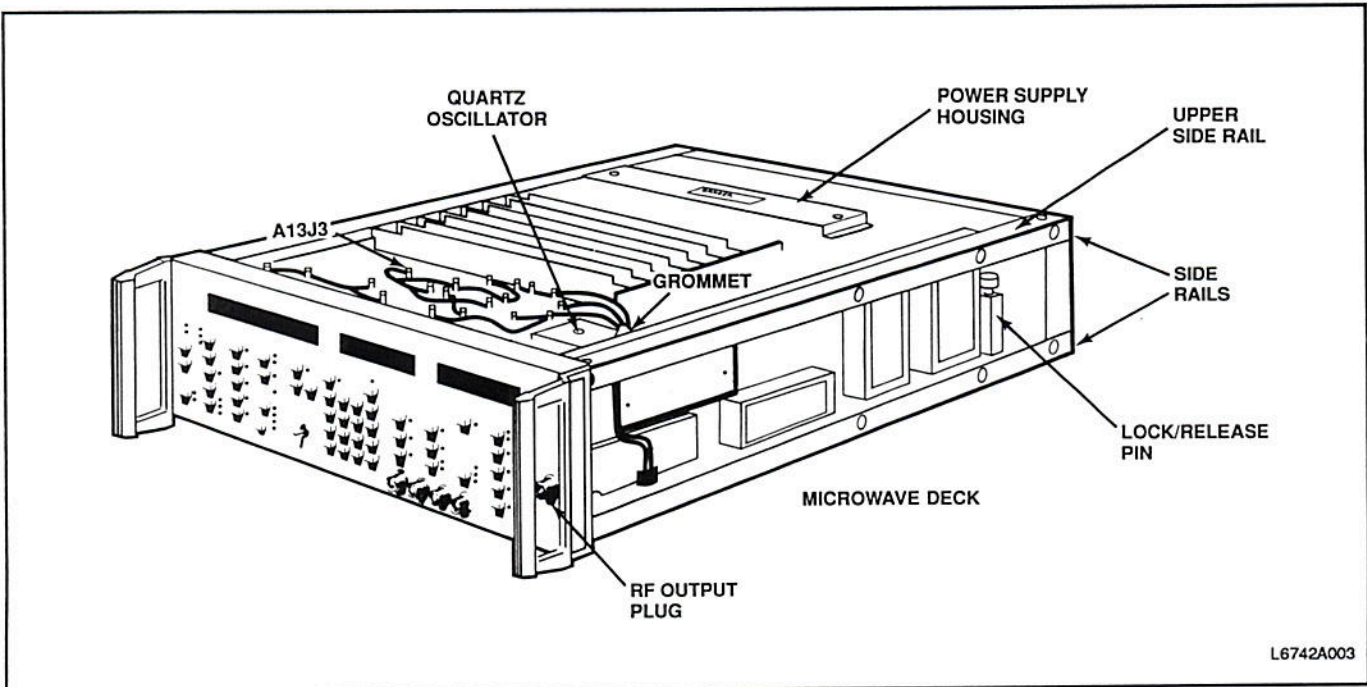

Figure 7-3. Top and Side Views
2. Unplug the A13J3 cable and push it through the grommet on the chassis (Figure 7-3).
12. Remove the front mounting screw from the quartz oscillator housing (Figure 7-3).